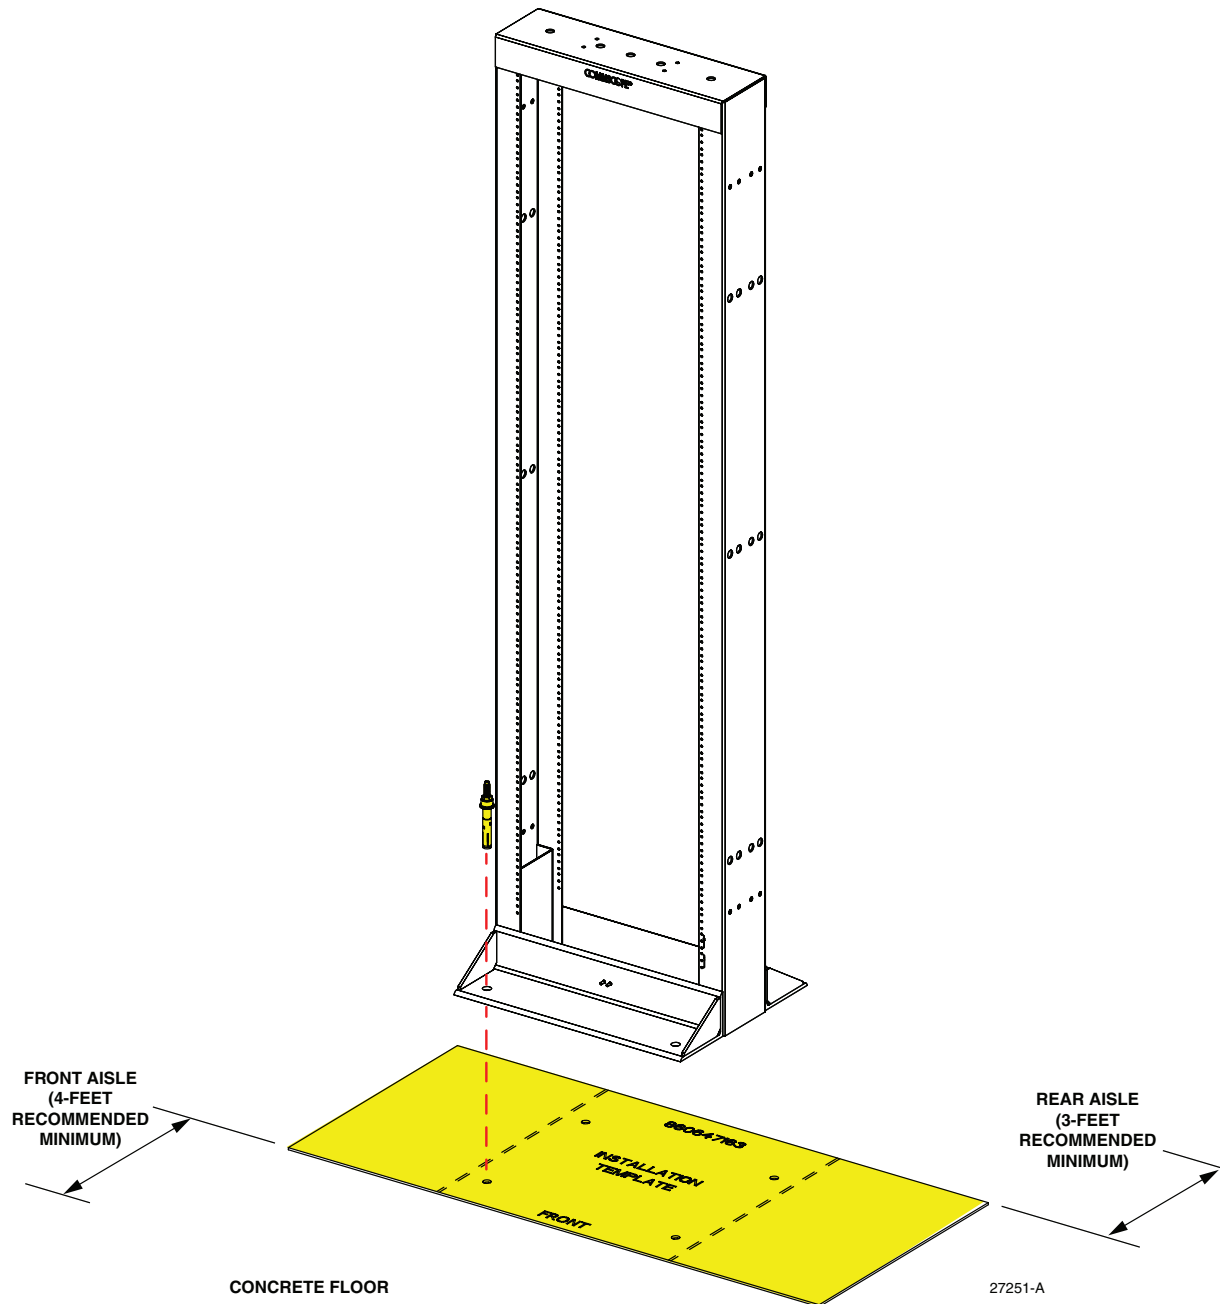

Figure 6. Determining Frame Location
1. Determine the frame location and ensure that the front and rear aisles at that location meet the recommended minimum widths shown in Figure 6. Mark the location with the installation template, as shown.